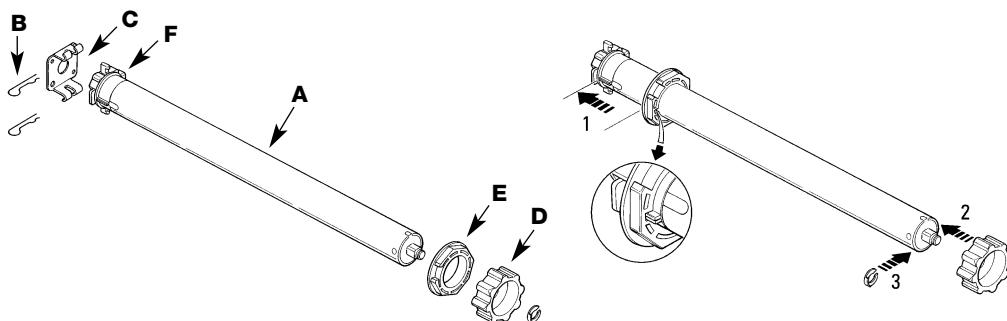

Fig. 4
2. Fix support **[C]** shown in figure 4 securely; note that you must leave sufficient space for the motor head between the support and the roller tube.